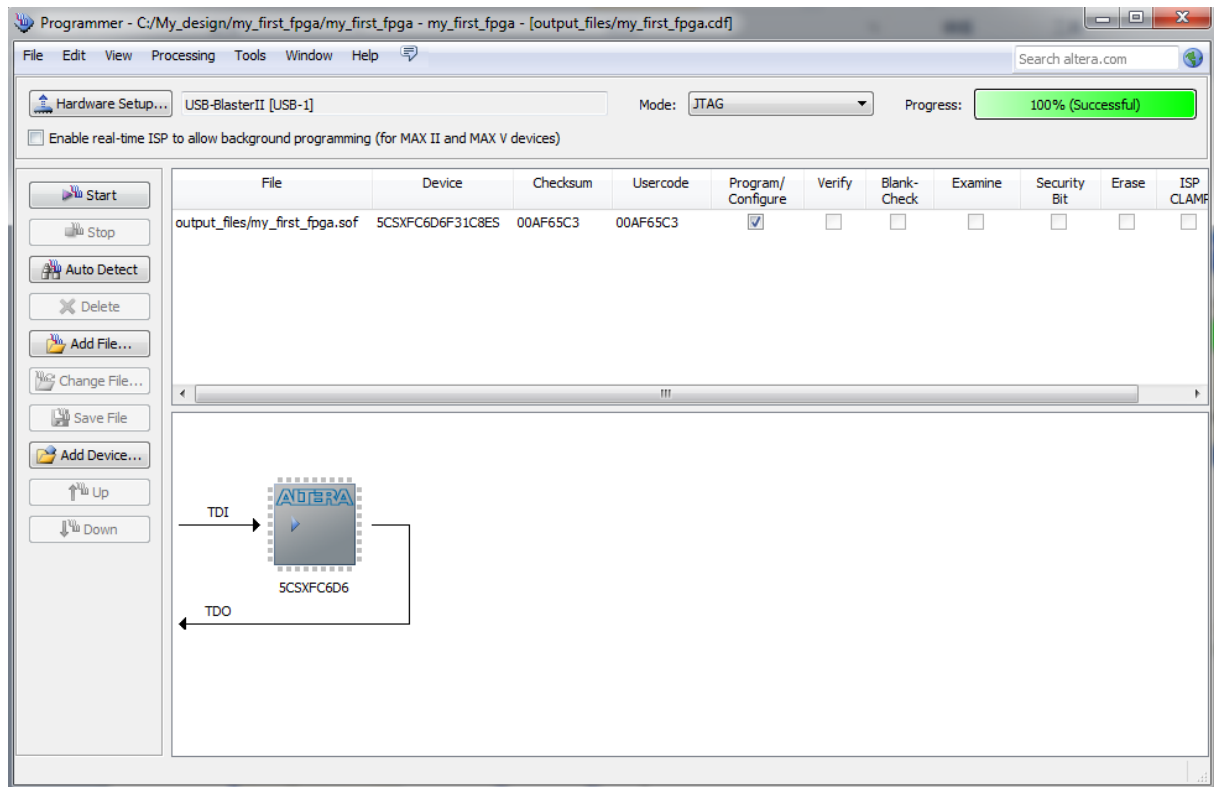

Figure 4-5 Downloading Complete
6. Select the my_first_fpga.sof file from the project directory (see Figure 4-5).